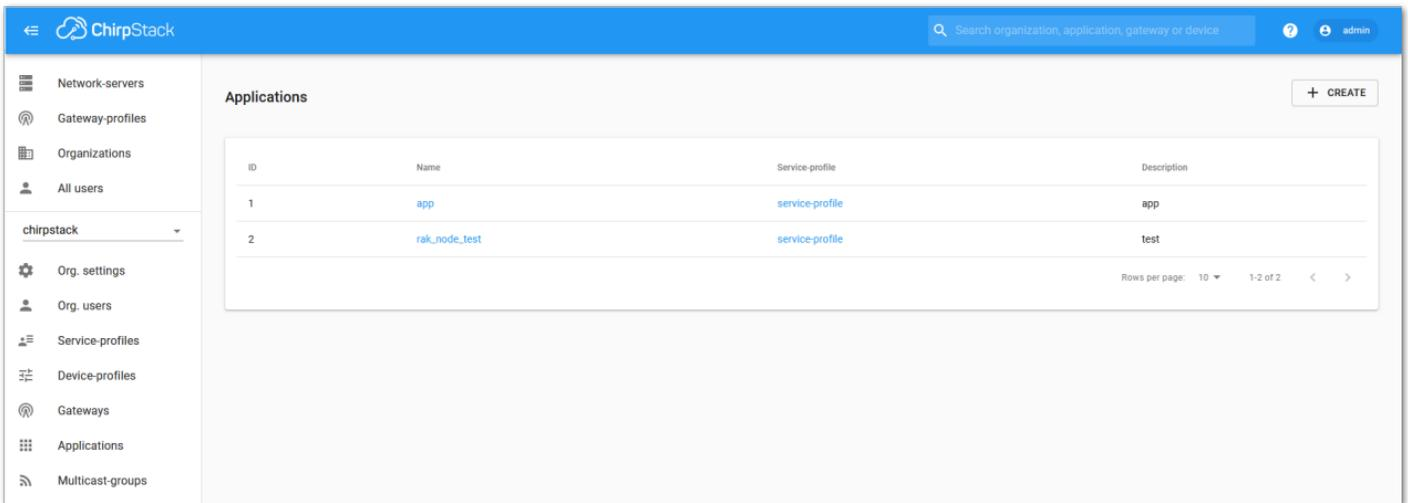
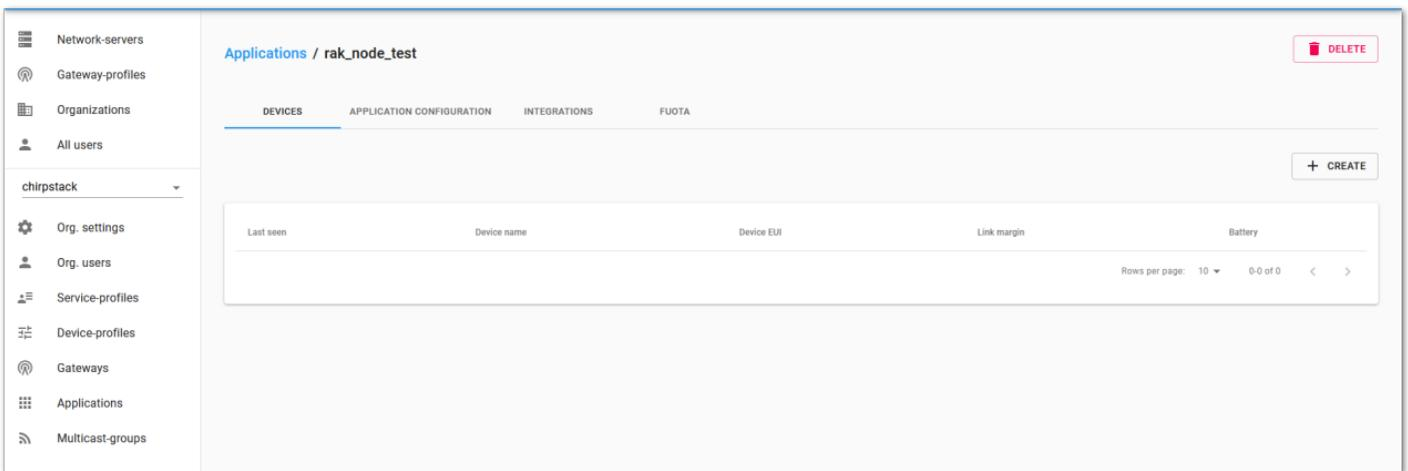

Figure 74: List of applications created
Figure 75: Device tab of an application
1. Choose the **Application** created in the previous step, then select the **DEVICES** tab, as shown in **Figure 74** and **Figure 75**.